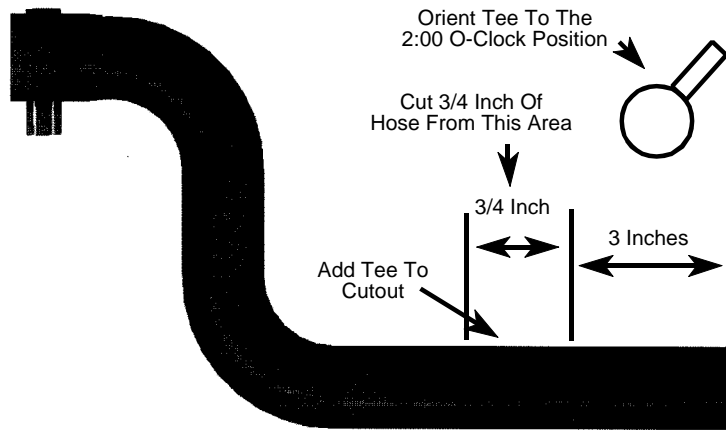

FIGURE 7
9. For both configurations, cut the new hose p/n 04767170AB as shown in Figure 7.
10. For both configurations, insert the Tee into the cut section of the heater hose. Use two hose clamps p/n 06502018 to complete the assembly. Before tightening the clamps, orient the Tee to the 2:00 O-Clock position as viewed from the front of the vehicle (Figure 7).